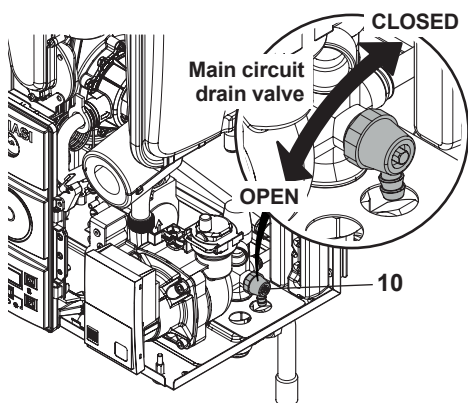

Fig. 10.6
- Loosen the central heating drain cock 10 indicated in Fig. 10.6.